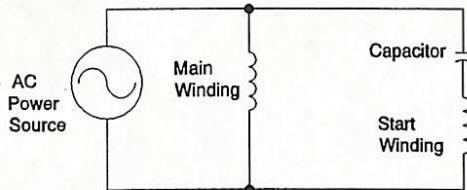

Figure 9.
**Split-phase Capacitor-run Motor.** This particular capacitor motor differs from the one previously discussed in that it has NO centrifugal switch. The capacitor remains in the circuit at all times. When very low torque is necessary these motors are used. Figure 9 indicates the circuit for the Split-phase Capacitor-run Motor.